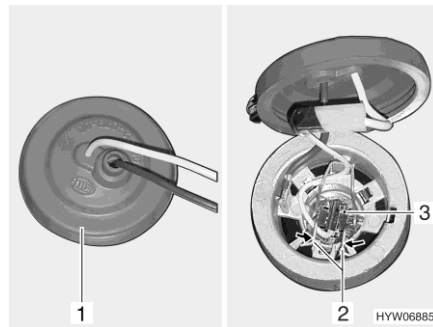

Fig. 215 Fog light
- Put your hand behind the fog light and remove rubber cap (Fig. 215,1) from lamp housing.
- Press metal clip (Fig. 215,2) together and release from holder.
- Remove bulb (Fig. 215,3) with cable from lamp housing.